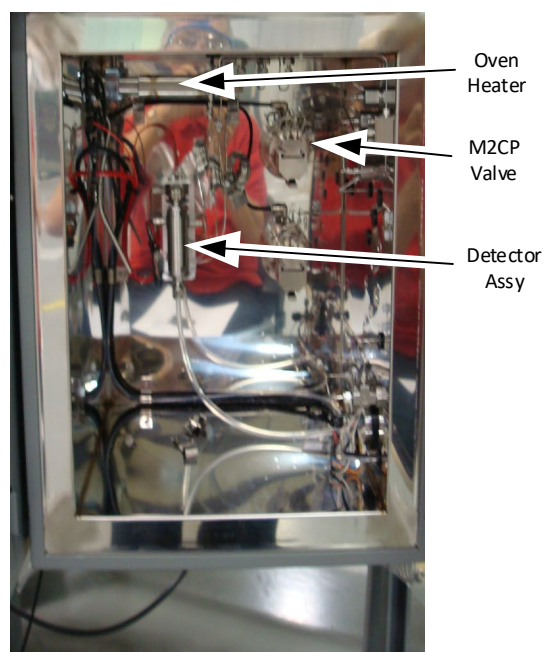

Fig. 8.10. Main Interior Components
8.5 Class B main interior, both versions (see Figure 8.10)